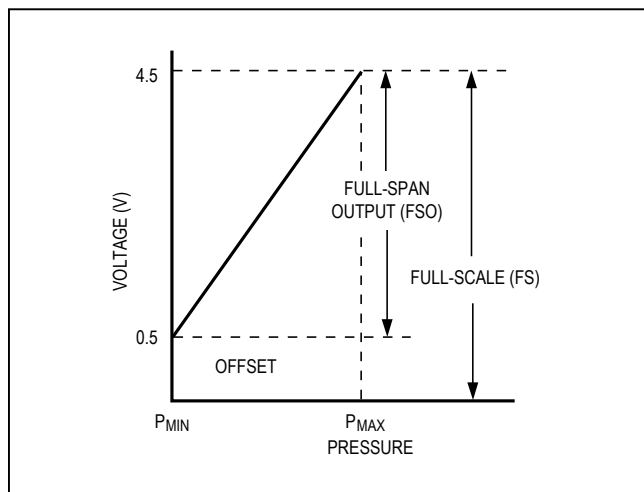

Figure 1. Typical Pressure-Sensor Output
- 24 user-defined bits for customer programming of manufacturing data (e.g., serial number and date) Figure 1 shows a typical pressure-sensor output and defines the offset, full-scale, and full-span output values as a function of voltage.